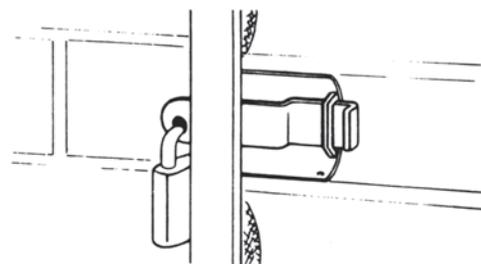

**Fig: 2.6.1**
- Fit faceplate to outside of door. Fit hooks onto edge of aperture then slide faceplate as far to the right as possible. Use adhesive tape to hold in position Fig 2.6.1.